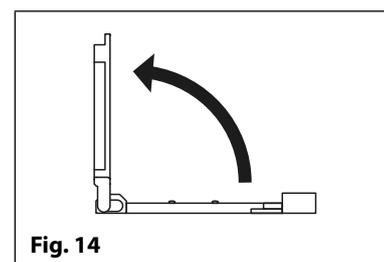

Fig. 14
2. The SIM holder is hinged and will open out, see **Fig.14**.